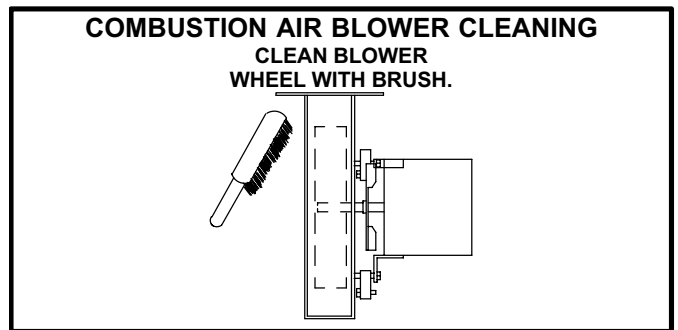

FIGURE 28
- 4- Clean blower wheel with a small brush (figure 28) and wipe off any dust from housing. Clean accumulated dust from front of flue box cover.